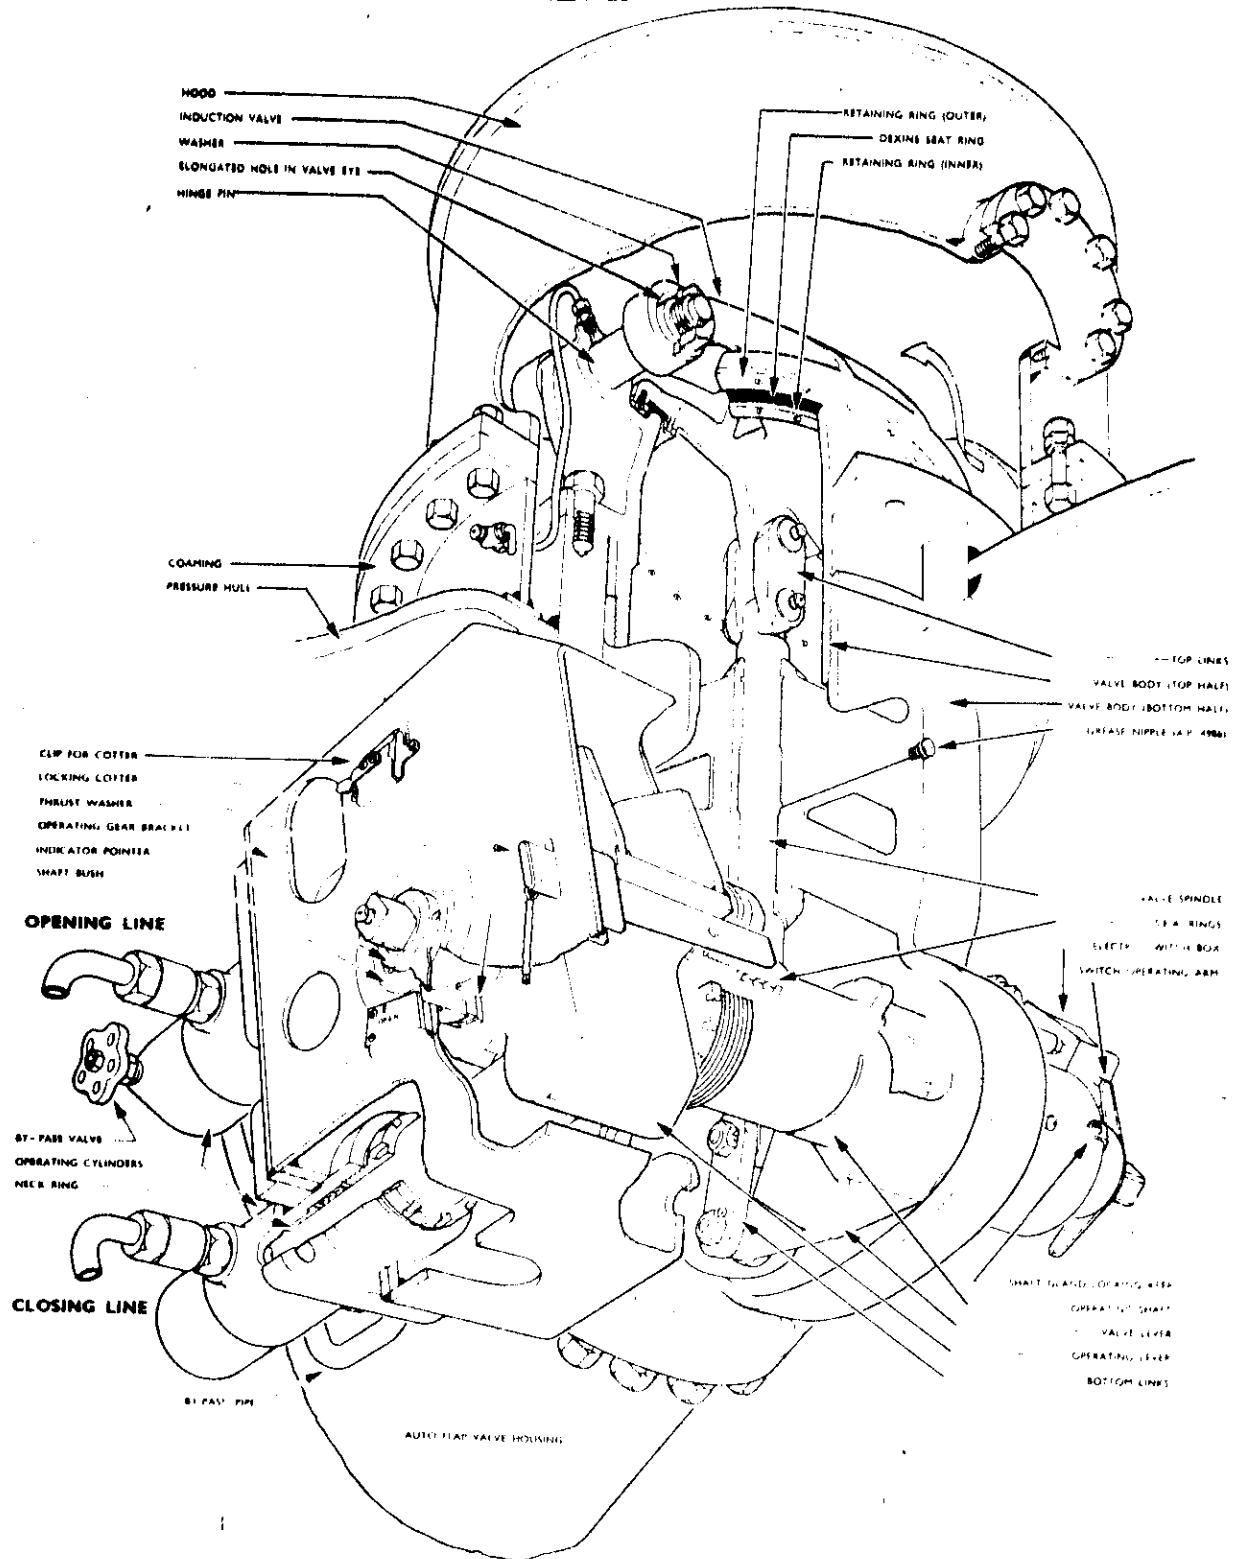

FIG. 4
3. INDUCTION HULL VALVE. (Figure 4). To provide a hull shut off between the outboard and inboard induction trunkings. It is hydraulically operated and can be opened and shut from the Engine Room, or SHUT only from the Control Room. In the event of hydraulic failure it can be opened and shut by means of a hand lever. A local hydraulic by-pass valve is provided to enable hand operation to be carried out. When not in use the Induction Hull Valve is kept SHUT and COTTERED.